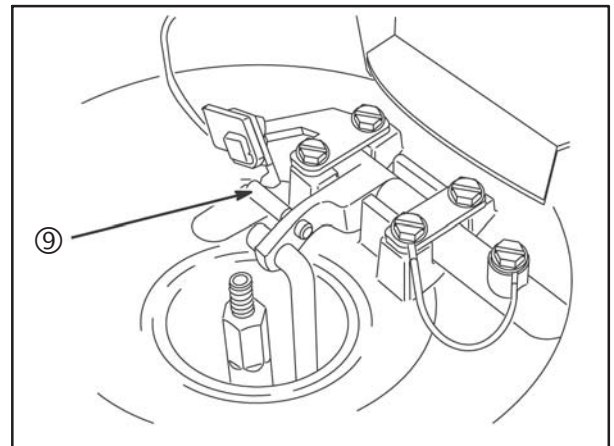

**Fig. 16 – Neutral Switch Test**
1. Disconnect the wiring harness connector (Figure 16) ⑤ from the engine speed limiter.